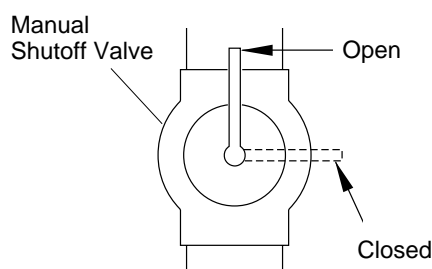

Figure 25 - Manual Shutoff Valve
1. Close manual shutoff valve (see Figure 25).
1. Open manual shutoff valve (see Figure 25).